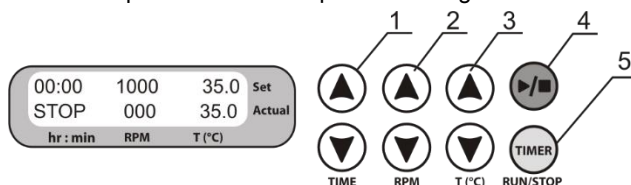

Figure 3. Control Panel
- 5.4.1. **Setting time (TIME).** Using the ▲ and ▼ TIME keys (fig. 3/1) set the required working time interval in hours and minutes (increment 1 min).
- 5.4.2. **Setting speed (RPM).** Using the ▲ and ▼ RPM keys (fig. 3/2) set the required speed (increment 10 rpm).
- 5.4.3. **Setting temperature (T, °C).** Using the ▲ and ▼ T, °C keys (Fig. 3/3) set the necessary temperature (increment 0.1°C).
5.5.2. Press the ►/■ **RUN/STOP** key (fig. 3/4). The platform will start rotating and the timer indicator will start counting up the time interval (with 1 min precision).
5.7. If required, there is possibility to restart the timer when it is running. Press the **TIME RUN/STOP** key once (fig. 3/5) to stop the timer. Press the **TIME RUN/STOP** key again to restart the timer.
Caution! At the end of the set time period the platform movement is stopped automatically, but the heating can be stopped only manually by reducing the temperature using the ▼ **T, °C** key (Fig. 3/3 - lower key) till the **OFF** sign appears in the upper line (Set) of the display